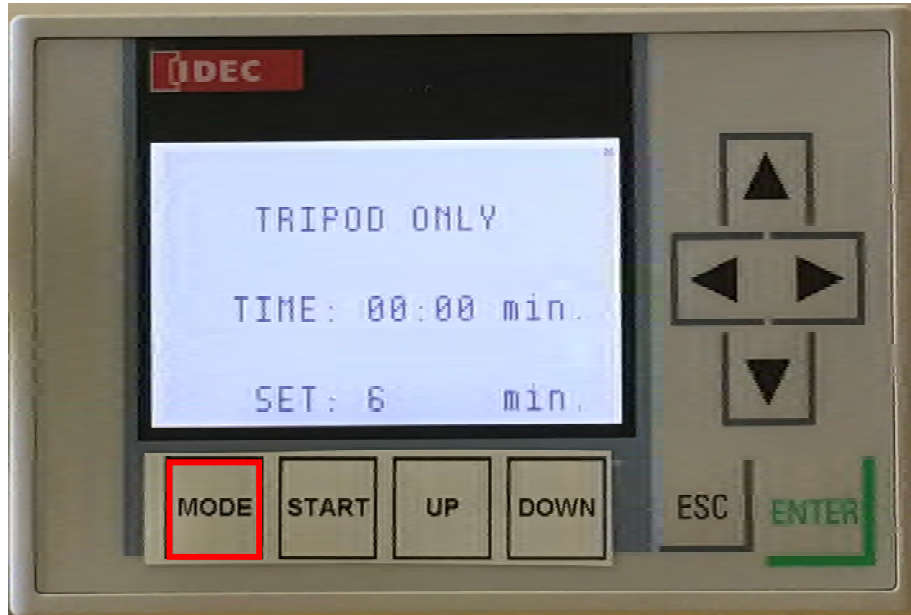

FIGURE 6
5) Tripod Only Mode. (Figure 6)